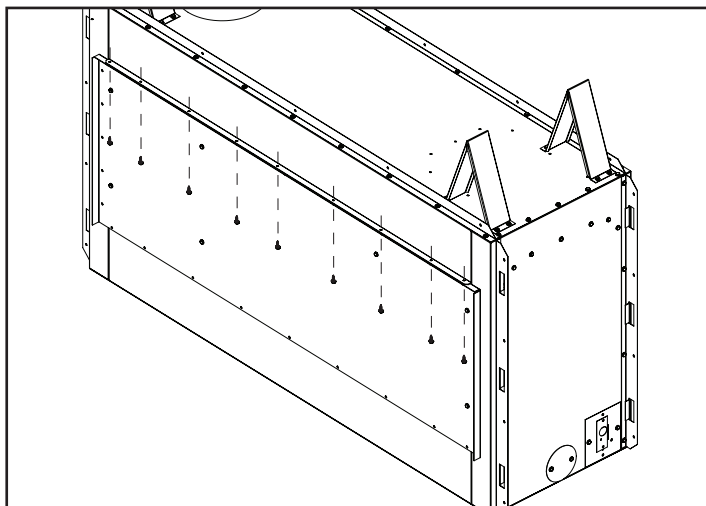

Figure 38 - Removing Rear Panel for See-Thru Applications
1. In the rear of the fireplace, locate screws at top of rear panel and remove as shown in Figure 38. Discard screws and rear panel.